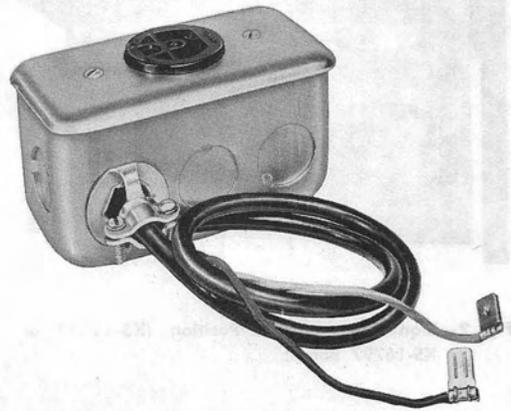

Fig. 8—KS-19580, List 51 Receptacle
- (b) Install a KS-19580, List 51 receptacle assembly (Fig. 8) above the ceiling area in the first booth.
- (b) Install a KS-19580, List 51 receptacle assembly (Fig. 8) above the ceiling area in each booth.